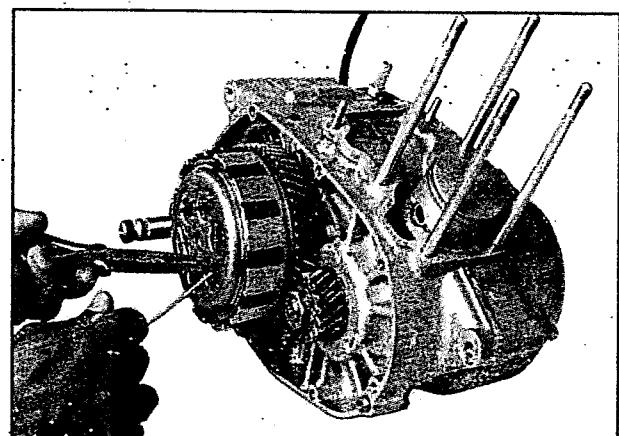

Fig 3.22
- Pull the clutch spring by using the special tool and take off the pressure plate pins (fig 3.22) in a crosswise manner.